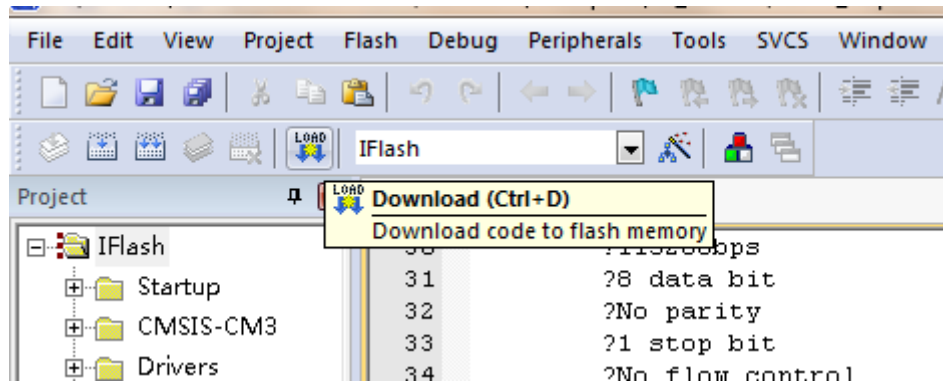

Figure 3-22
③ Click “Download”. Refer to figure 3-22: